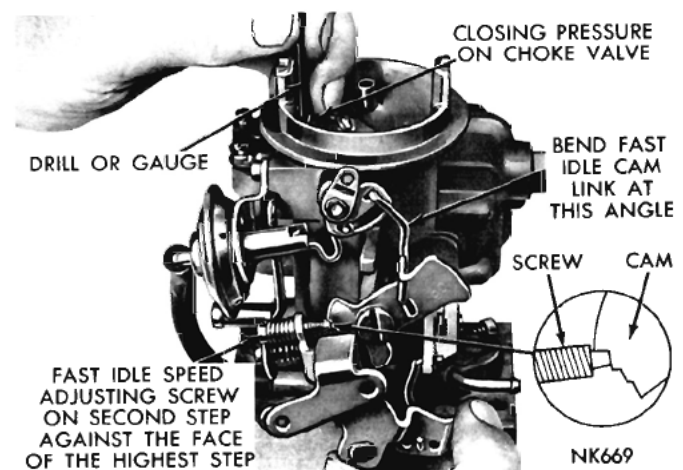

Fig. 11—Fast Idle Cam Position Adjustment
(1) With the fast idle speed adjusting screw contacting the step on the fast idle cam shown in (Fig. 11), move the choke valve toward the closed position with light pressure. Insert a  $\frac{5}{64}$  inch drill or gauge between the choke valve and the wall of the air horn.
(2) An adjustment will be necessary if a slight drag is not obtained as the drill or gauge is being removed.
(3) If an adjustment is necessary, bend the fast idle link at the lower angle, using Tool T109-213, until the correct valve opening has been obtained. Refer to (Fig. 11).